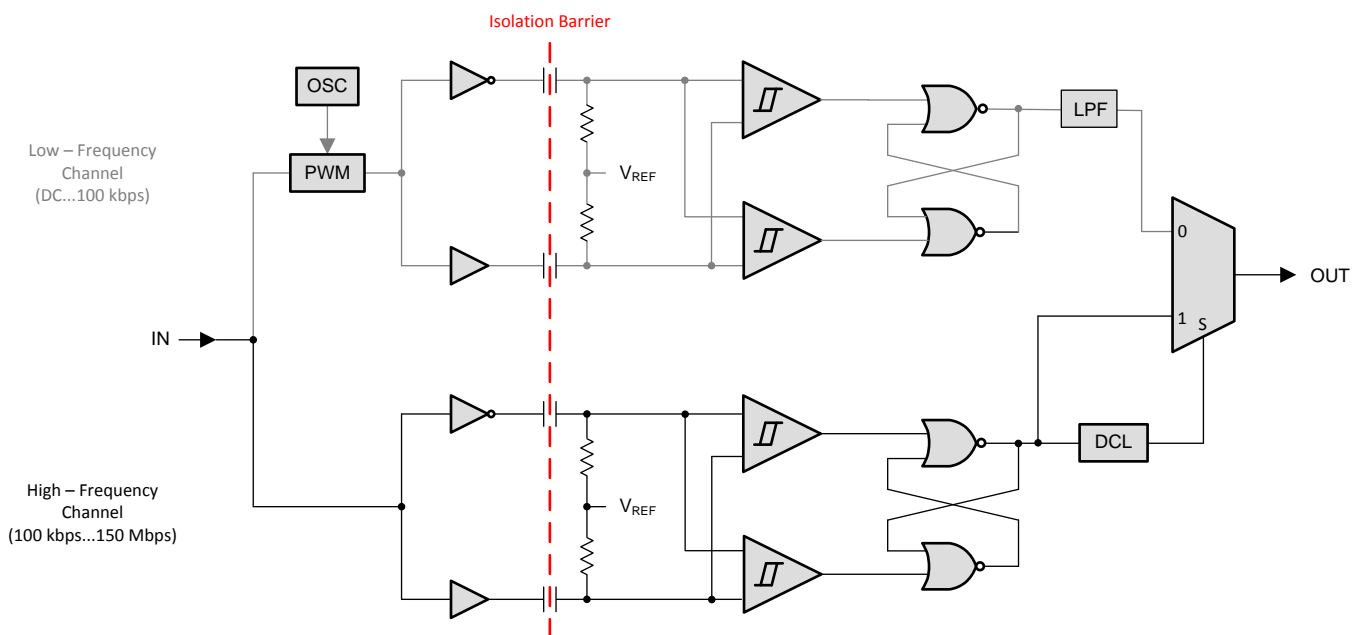

Figure 17. Conceptual Block Diagram of a Digital Capacitive Isolator
The isolator in Figure 17 is based on a capacitive isolation-barrier technique. The I/O channel of the device consists of two internal data channels, a high-frequency channel (HF) with a bandwidth from 100 kbps up to 150 Mbps, and a low-frequency channel (LF) covering the range from 100 kbps down to DC. In principle, a single-ended input signal entering the HF-channel is split into a differential signal through the inverter gate at the input. The following capacitor-resistor networks differentiate the signal into transients, which then are converted into differential pulses by two comparators. The comparator outputs drive a NOR-gate flip-flop the output of which feeds an output multiplexer. A decision logic (DCL) at the driving output of the flip-flop measures the durations between signal transients. If the duration between two consecutive transients exceeds a certain time limit, as in the case of a low-frequency signal, the DCL forces the output-multiplexer to switch from the high- to the low-frequency channel.